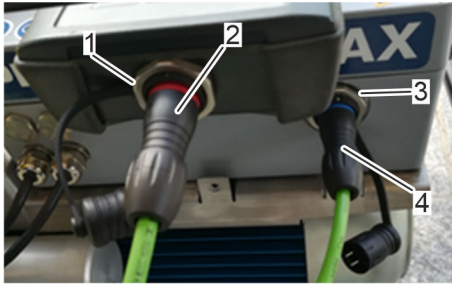

Fig. 40: Connecting the adapter cable
1. ➤ Connect the red bushing of the adapter cable (Fig. 40/2) to the control unit (BE) (Fig. 40/1).
2. ➤ Plug the blue plug of the adapter cable (Fig. 40/3) into the documentation and service interface of the hydraulic power pack (Fig. 40/4).